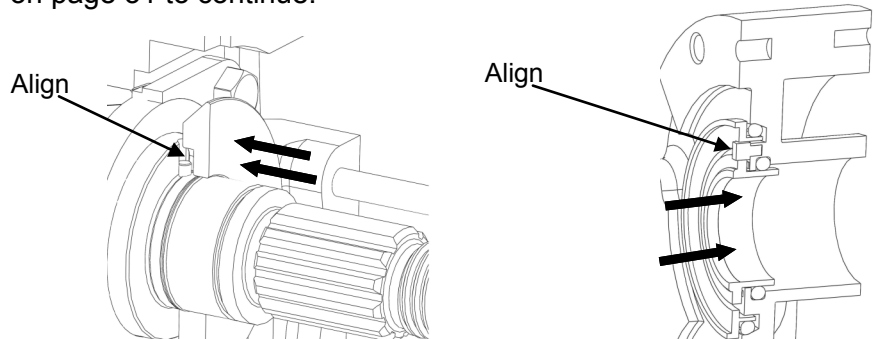

Figure 36: Double Mechanical Seal Assembly
*Assembly:* Clean both shaft ends and the body before assembling. Apply a light film of lubricant to NEW o-rings and insert them on the shafts (slot furthest from splines), into the body and on to the outer seals. Slide the rotating seal onto shaft pushing against the shaft shoulder making sure to align the slot on the seal to the drive pin on the shaft (Figure 36). Place the wave springs onto the stationary seals and install them into the back of the body making sure the slot on the seal lines up the pin on the back of the body. Insert the outer seal (with o-rings) into the back of the body. Make sure all seal faces are clean. See Pump Assembly on page 31 to continue.